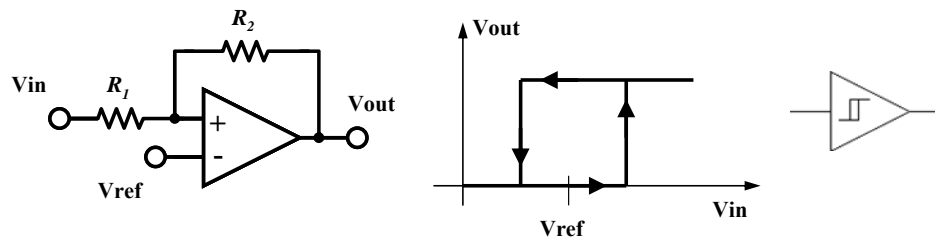

Figure 5-8 – Schmitt trigger using a comparator, transfer characteristic, and circuit symbol.
In a comparator, the threshold for switching is just set by the reference voltage applied to one of the inputs. This is a nice feature compared with our previous circuits, but there is an even more useful variation on the basic comparator circuit that uses positive feedback. This is shown in Figure 5-8, and is called a Schmitt trigger. There are of course discrete transistor-based implementations, but many modern circuits will either use a comparator as shown, or a dedicated Schmitt-trigger IC that implements this function.
In the Schmitt trigger of Figure 5-8, the amount of voltage ΔV that is required above and below the reference is set by the feedback resistors.
- Derive expressions for the two tripping points on the hysteresis curve of the Schmitt trigger for the circuit in Figure 5-8.
You do not have to build this circuit. We will use a variant of it in the larger circuit in the next section. Note that we left off the pull-up resistor in Figure 5-8 for clarity; if you *were* to build this using an LM393 or equivalent, you would need this, plus some reference voltage.